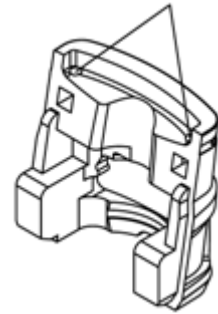

Figure2-21
(3) Lifting description of the counterbalance as shown in Figure 2-21